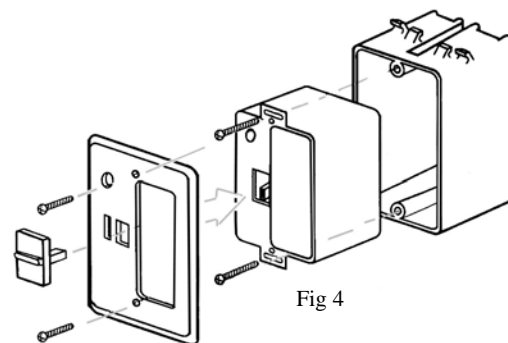

Fig 4
2. Use the screws provided to secure the face plate to the Remote Receiver. See Figure 4.